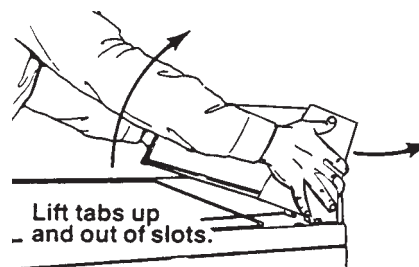

Fig. 4-8
2. Grab console on both sides. Pull console towards you, lifting the tabs up and out of the console slots. Carefully flip console back to make repairs. Do not lean console against wall. Console may mar or damage wall. If dryer is too close to wall, pull dryer forward so console does not touch wall. (Fig. 4-8)